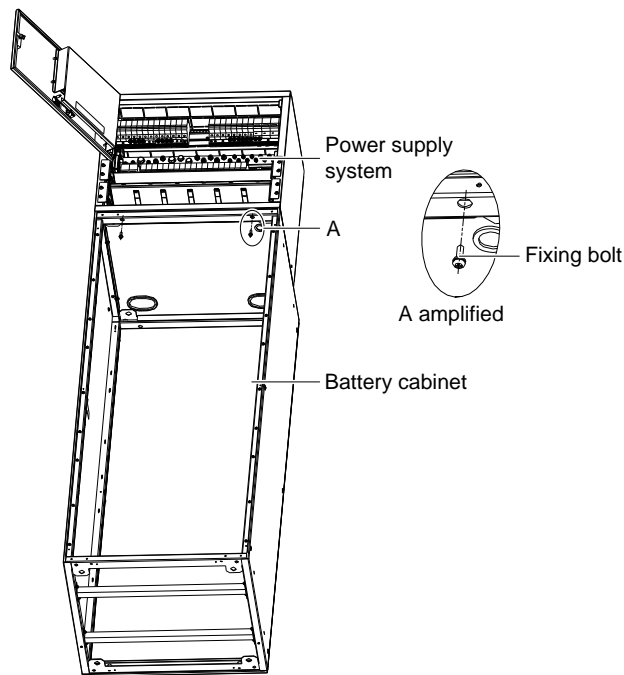

Figure 2-4 Installing the power supply system to the battery cabinet (front view)
2. Use the fixing bolts to fix the power supply system to the battery cabinet, as shown in Figure 2-4.
2. Put the rectifier onto the position shown in Figure 2-4. Push the rectifier completely into the cabinet.